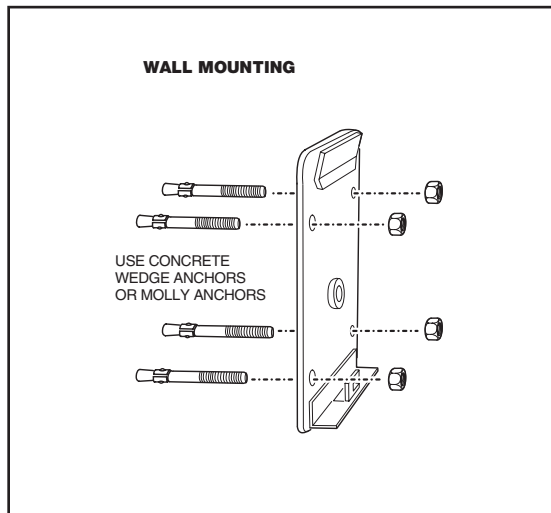

**Figure 3. Pedestal Mounting Keypad Backplate**
- ❑ Use four security bolts and locking nuts to secure the keypad's backplate to the pedestal (see Figure 3).